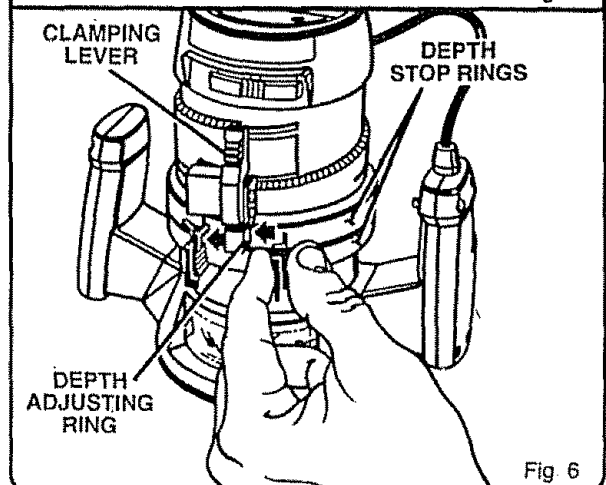

Fig. 6
2. Using depth adjusting ring, set cutter at lowest desired depth of cut. Lock clamping lever. Position bottom depth stop ring against depth adjusting ring. Hold depth stop ring against depth adjusting ring and lock. *See Figure 6.* Note: Depth stop ring ends snap together to lock.
3. Unlock clamping lever and move depth adjusting ring to set cutter at second desired depth of cut. Lock clamping lever. Position top depth stop ring against depth adjusting ring. Hold depth stop ring against depth adjusting ring and lock. *See Figure 6.* Note: Depth stop ring ends snap together to lock.